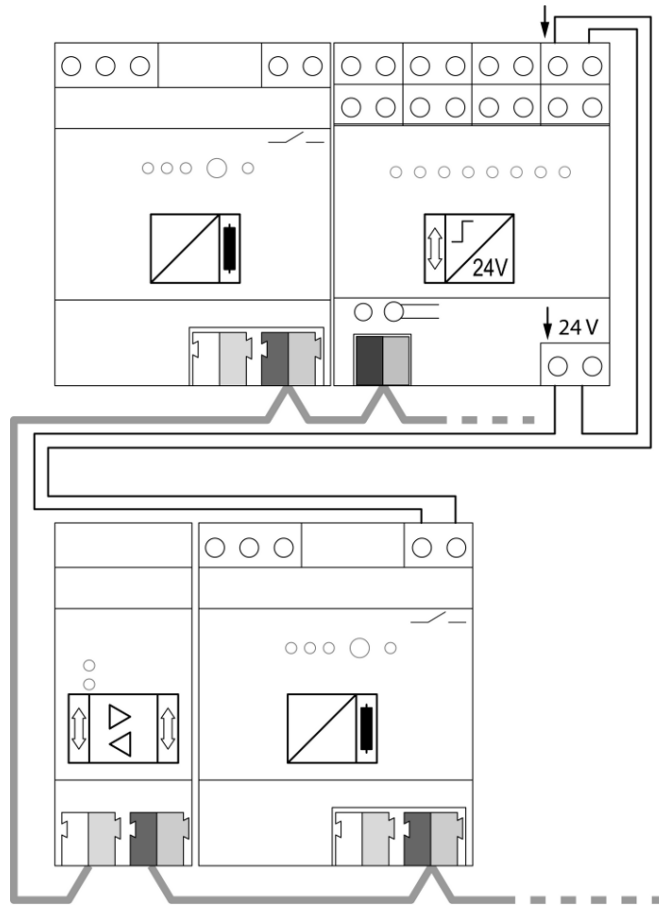

Figure 6: Application example – KNX binary input on main line for detecting and centrally signalling diagnostic messages
- Connect the KNX binary input according to the connection example (see figure 6).